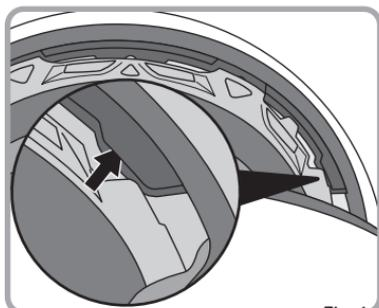

Fig. 1
- ① Insert the interlining at the temple areas as shown in Fig. 1.